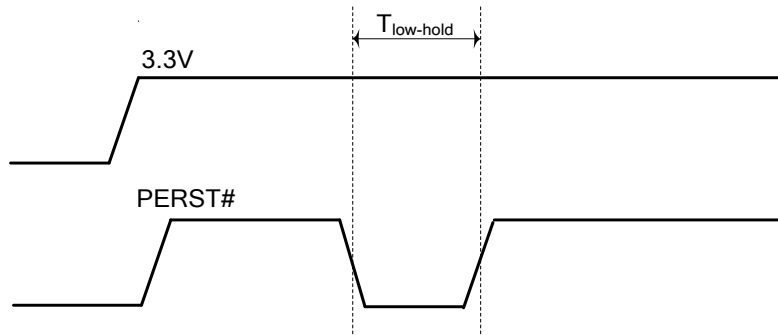

Figure 18: Reset timing
The dimension of the connector on SIM7230 is 2.6*2.6*1.25mm, which is from Hirose, and the part number is U.FL-R-SMT (10), Use KLC-1401 (www.lccable.com) to attach antennas to connection points on the module, as shown in Figure 18, likewise, customer can choose other vendor if the component's size match with U.FL-R-SMT (10).